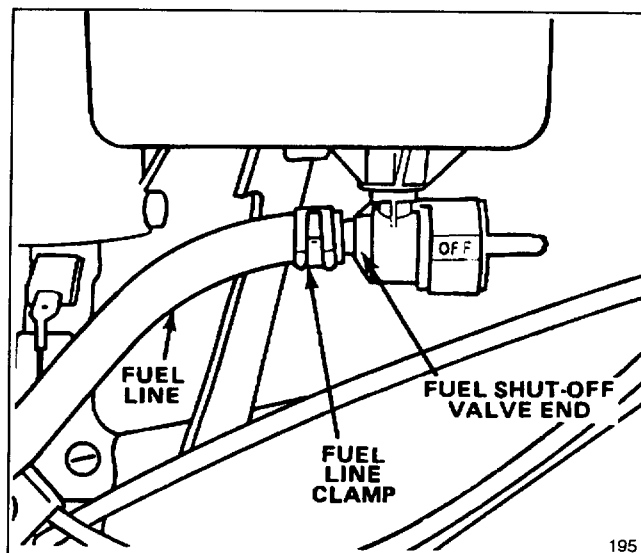

Figure 7
5. Connect fuel line by sliding fuel line clamp onto end of fuel line. Slide end of fuel line onto fuel shut-off valve end (Fig. 7).